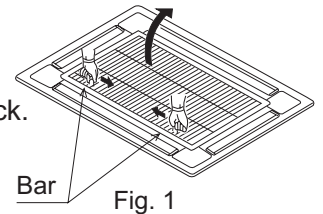

Fig. 1
- Be sure to see the Fig.1, when connecting and removing piping from unit.
- Cover joint of gas piping and insulator ⑦ with seal.
(1) Remove air inlet grill from ornament panel:
- Push in the bar on inlet grill and lift it up. (Refer to Fig. 1)